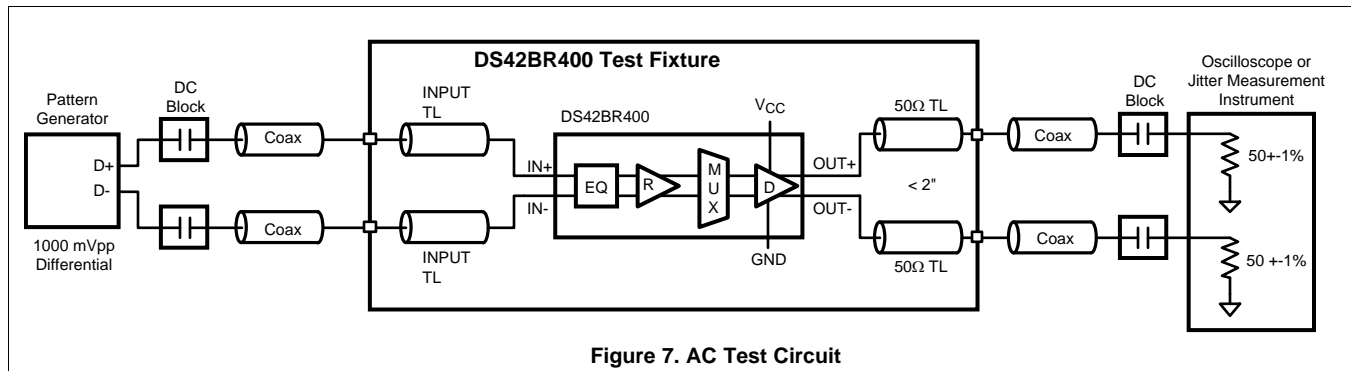

Figure 7. AC Test Circuit
- (2) t_{SKO} is the magnitude difference in propagation delays between all data paths on one device. This is channel-to-channel skew. t_{SKPP} is the worst case difference in propagation delay across multiple devices on all channels and operating under identical conditions. For example, for two devices operating under the same conditions, t_{SKPP} is the magnitude difference between the shortest propagation delay measurement on one device to the longest propagation delay measurement on another device.
- (3) Device output random jitter is a measurement of random jitter contributed by the device. It is derived by the equation $\text{SQRT}[(R_{J_{OUT}})^2 - (R_{J_{IN}})^2]$, where $R_{J_{OUT}}$ is the total random jitter measured at the output of the device in ps(rms), $R_{J_{IN}}$ is the random jitter of the pattern generator driving the device. Below 400 Mbps, system jitter and device jitter could not be separated. The 250 Mbps specification includes system random jitter. Please see Figure 7 for the AC test circuit.
- (4) Device output deterministic jitter is a measurement of the deterministic jitter contribution from the device. It is derived by the equation $(DJ_{OUT} - DJ_{IN})$, where DJ_{OUT} is the total peak-to-peak deterministic jitter measured at the output of the device in ps(p-p). DJ_{IN} is the peak-to-peak deterministic jitter at the input of the test board. Please see Figure 7 for the AC test circuit.
- (5) This parameter is guaranteed by design and/or characterization and is not tested in production.